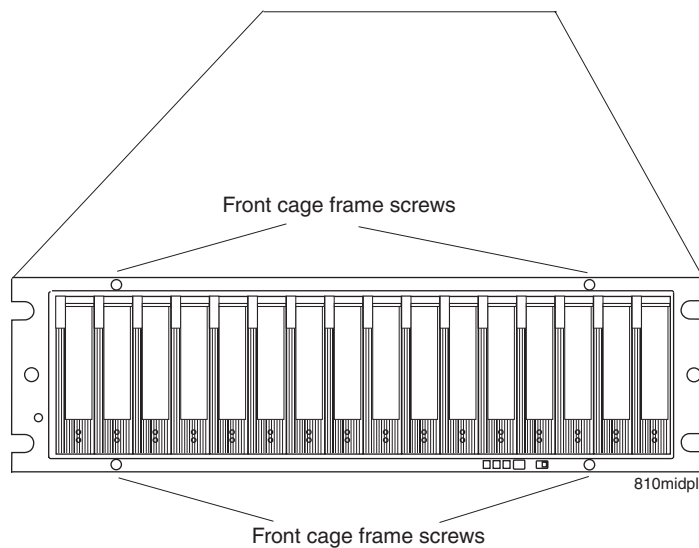

Figure 68. Front cage frame screw locations
11. Use a #1 Phillips screwdriver to loosen the four front cage frame screws on the midplane, as shown in Figure 68.
18. Tighten the four front cage frame screws. See Figure 68 on page 131.